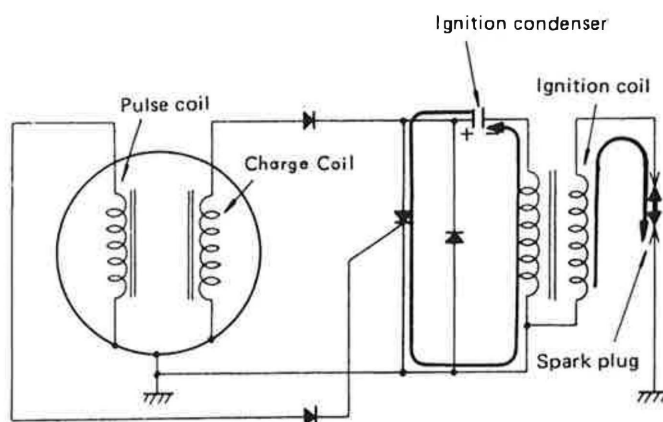

Fig. 3 Capacitor Discharges - Spark Plug Fires
- (2) This makes the thyristor conductive. The moment that the thyristor becomes conductive, the ignition condenser begins to discharge its stored electricity quickly. This induces a high voltage in the secondary winding, thus causing a spark to jump across the spark gap (Fig. 3).